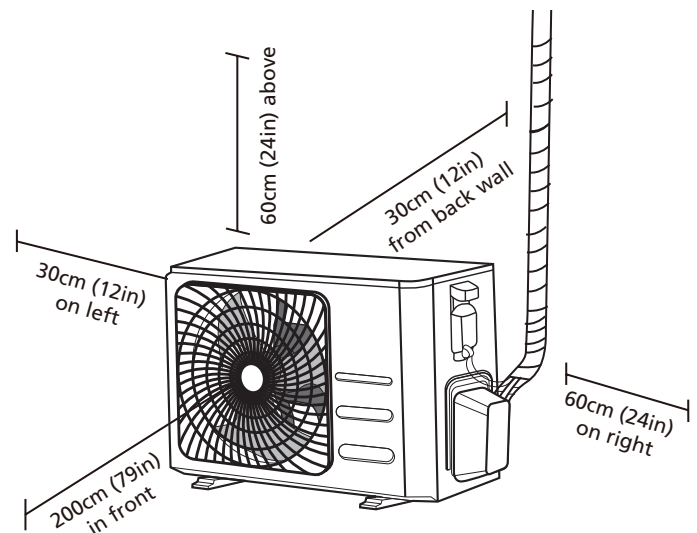

Fig. 4.1
- ☑ Meets all spatial requirements shown in Installation Space Requirements (**Fig. 4.1**)